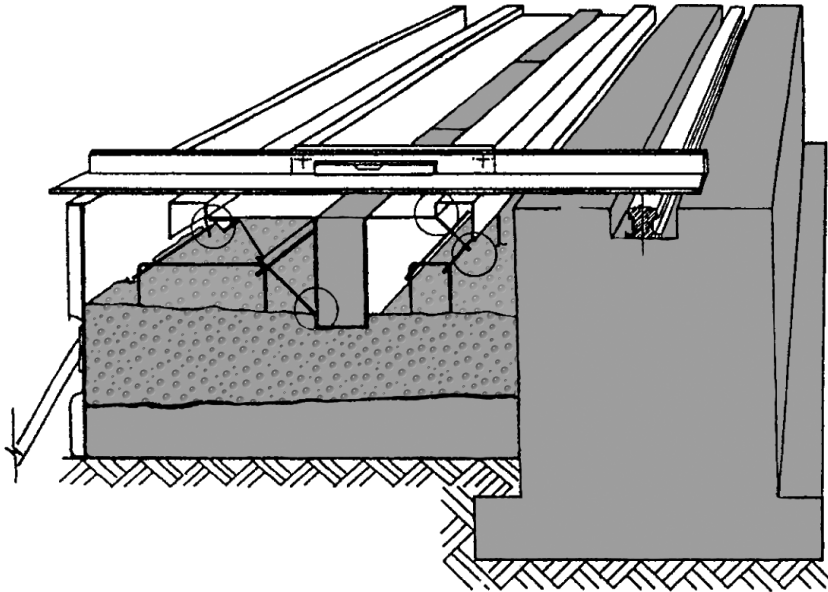
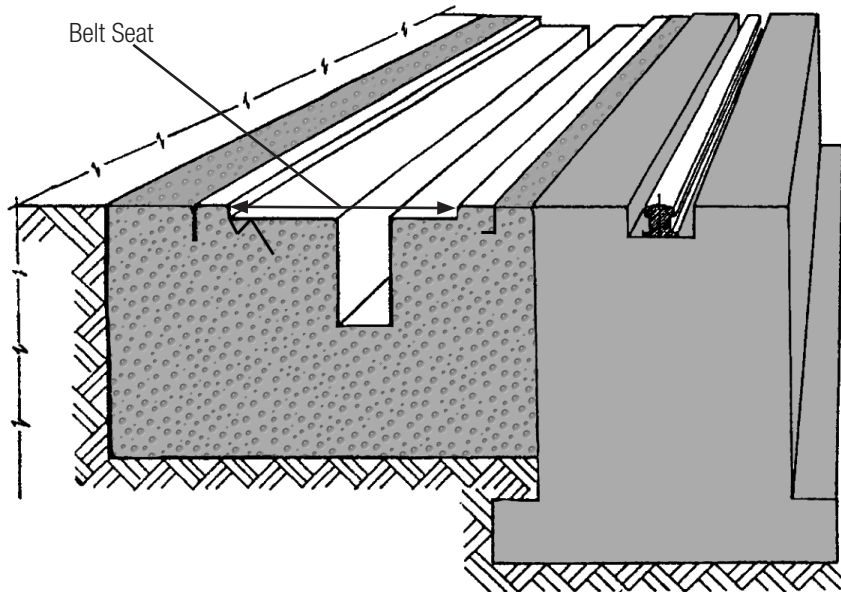

Figure 6d.
Figure 6e.
6.4 **Figure 6d**, shows the final pour of the concrete. This pour must be executed in two phases: the first one uses enough concrete to fill the area around the channel by approx. one third of the total depth to fix it better; the second one up to complete filling. This operation executed at a different time helps to prevent the possibility that the channel system might “float” out of position. This effect shall be prevented by the transoms properly secured to the ground. During the final phase of the pour it is important that concrete vibration equipment be employed, to ensure correct compaction, particularly on the external sides of the channel system. Therefore it is necessary to ensure that the upper level of the concrete before it sets up is the same as the upper level of the channel system. After setting the concrete it is necessary to remove the angles and polystyrene filler, and to clean the belt seat in **(figure 6e)**, and that the channel system is completely clear after the final cleaning operations.